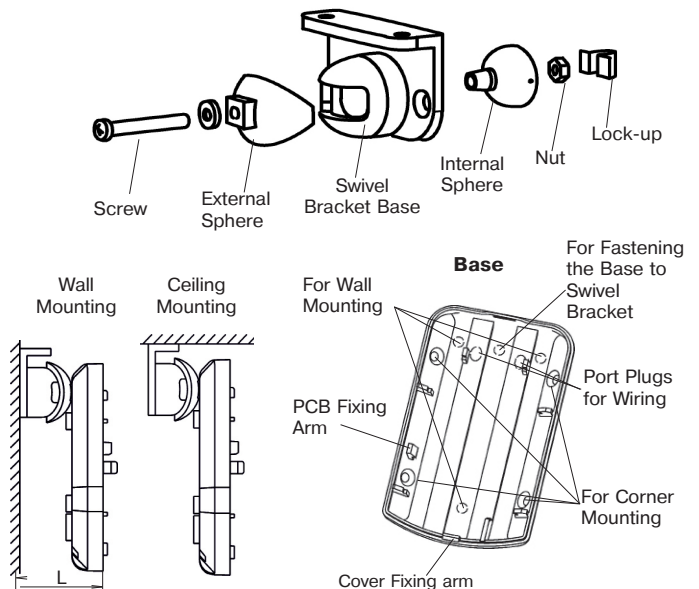

Figure 2 – The Detector Base and Swivel Bracket
- Unfasten the latch at the underside of the detector case by means of screwdriver and remove the detector cover (Figure 2).
- Drill the holes in the base of the detector (Figure 2) for wires installation and for the detector fastening.
1. After the detector fastening to the swivel bracket, turn the detector case vertically in accordance with the chosen installation height. Measure the distance (L) from the wall to the detector base edge with the cover opened (Figure 2, Table 3).